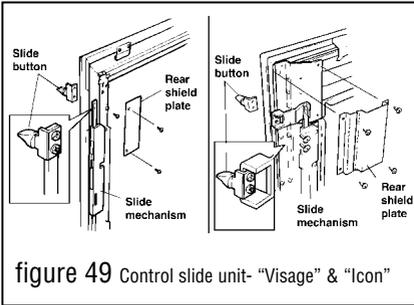

figure 49 Control slide unit- "Visage" & "Icon"
15.4.2 Detach the rear shield plate by removing two screws ("Visage") or four screws ("Icon") from the rear right side of the front surround (See fig. 49).
clear the bar and pull through the slot in the surround side (See fig. 49).